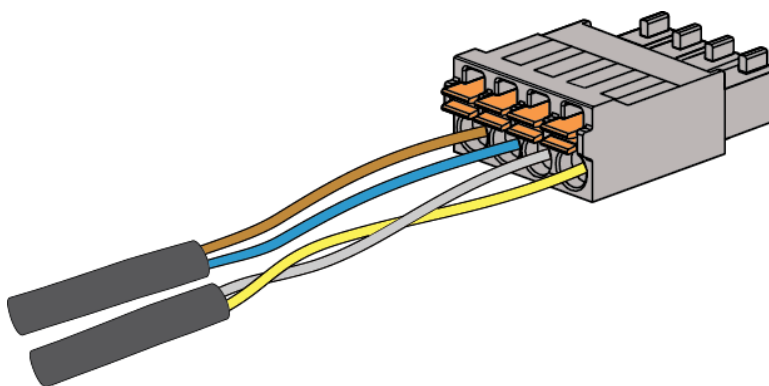

Figure 40: Communication Connector Wiring
7. On each end of the 4-conductor communication cable, strip and insert the wires into the provided 4-pin Phoenix connectors according to the following table and diagram (Figure 40). On the Powerwall side, use the black Phoenix connector provided in the accessory bag. On the Backup Gateway side, use the connector that came plugged into the corresponding connector socket in the Backup Gateway.